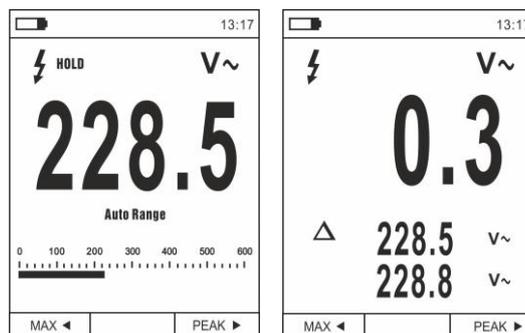

Fig. 8 Relative measurement
1. Long press key **HOLD/REL** to enter relative measurement (see Fig.8 – right side). The instrument zeroes the display and saves the displayed value as a reference value which subsequent measurements will be referred to. Symbol “Δ” appears on the display. Functions “MAX/MIN” and “PEAK” are not active in this mode.